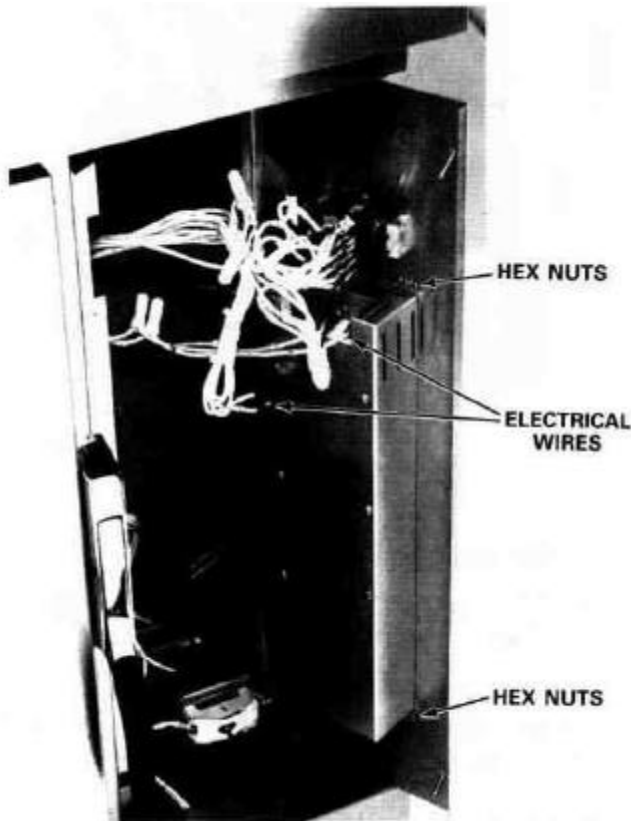

Figure 13
- Using the long nose pliers, disconnect the electrical wire connections, and unscrew the thermocouple wires. (See Figure 13)
- Using the nut driver, remove 4 hex-nuts and remove the oven controller. (See Figure 13)